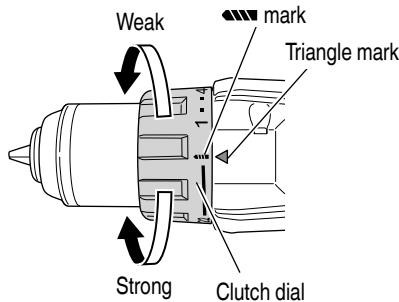

Fig. 12
- Confirm the clutch dial position (See Fig. 12).
- (2) Tightening torque indication (See Figs. 12 and 14)
- (3) Adjusting the tightening torque (See Figs. 12 and 14)